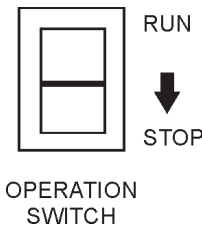

Figure 23. Operation Switch (Stop)
4. Place the **operation switch** (Figure 23) in the **STOP** position.
1. Place the **operation switch** (Figure 23) in the **STOP** position.